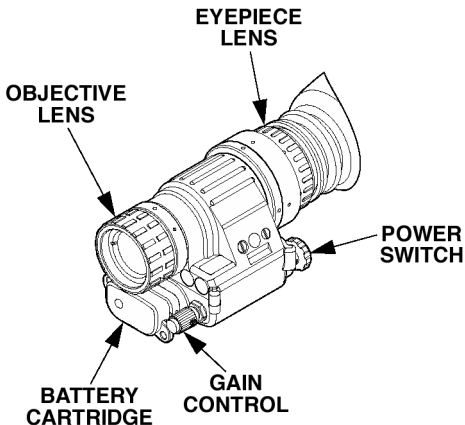

Figure 1-2. Monocular Night Vision Device.
a. Monocular . The monocular (see Figure 1-2) consists of various components such as an objective lens, an image intensifier (not shown), an eyepiece lens and a battery cartridge.